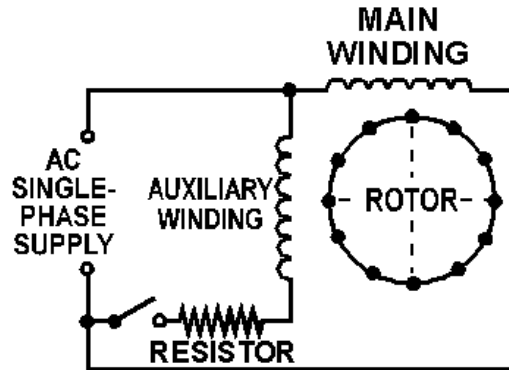

Figure 4-12.—Resistance-start ac induction motor.
**RESISTANCE-START.**—Another type of split-phase induction motor is the resistance-start motor. This motor also has a starting winding (shown in fig. 4-12) in addition to the main winding. It is switched in and out of the circuit just as it was in the capacitor-start motor. The starting winding is positioned at right angles to the main winding. The electrical phase shift between the currents in the two windings is obtained by making the impedance of the windings unequal. The main winding has a high inductance and a low resistance. The current, therefore, lags the voltage by a large angle. The starting winding is designed to have a fairly low inductance and a high resistance. Here the current lags the voltage by a smaller angle. For example, suppose the current in the main winding lags the voltage by  $70^\circ$ . The current in the auxiliary winding lags the voltage by  $40^\circ$ . The currents are, therefore, out of phase by  $30^\circ$ . The magnetic fields are out of phase by the same amount. Although the ideal angular phase difference is  $90^\circ$  for maximum starting torque, the 30-degree phase difference still generates a rotating field. This supplies enough torque to start the motor. When the motor comes up to speed, a speed-controlled switch disconnects the starting winding from the line, and the motor continues to run as an induction motor. The starting torque is not as great as it is in the capacitor-start.